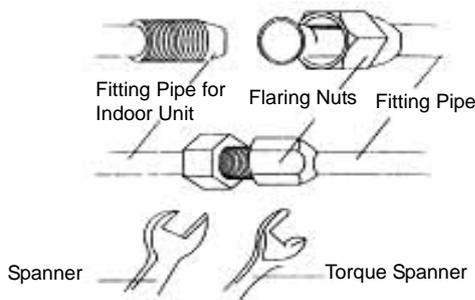

Fig. 15
(1) Align the flared end of the copper pipe with the center of the thread joint. Manually tighten the flared end nut.
(2) Use torque spanner to tighten the flared end nut until the spanner clatters (See Fig.15).